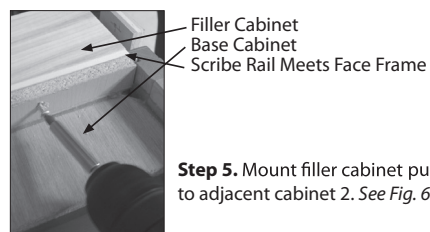

Fig 6
Step 5. Mount filler cabinet pullout to adjacent cabinet 2. See Fig. 6